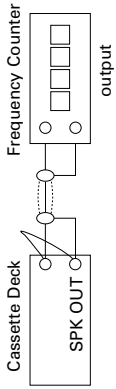

Figure 1-4
- 2) Connect the cassette deck to the frequency counter as in figure 1-4.